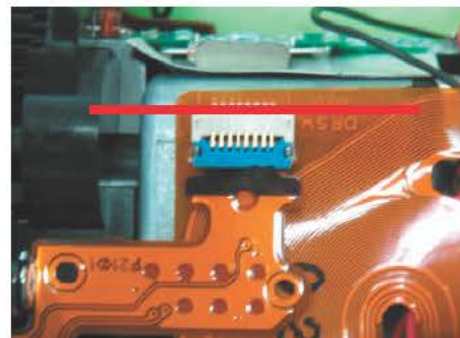

Fig. 111
- (4) Be careful not to insert the Door Switch FPC Ass'y at an angle and assemble it at the position shown in Fig. 111.